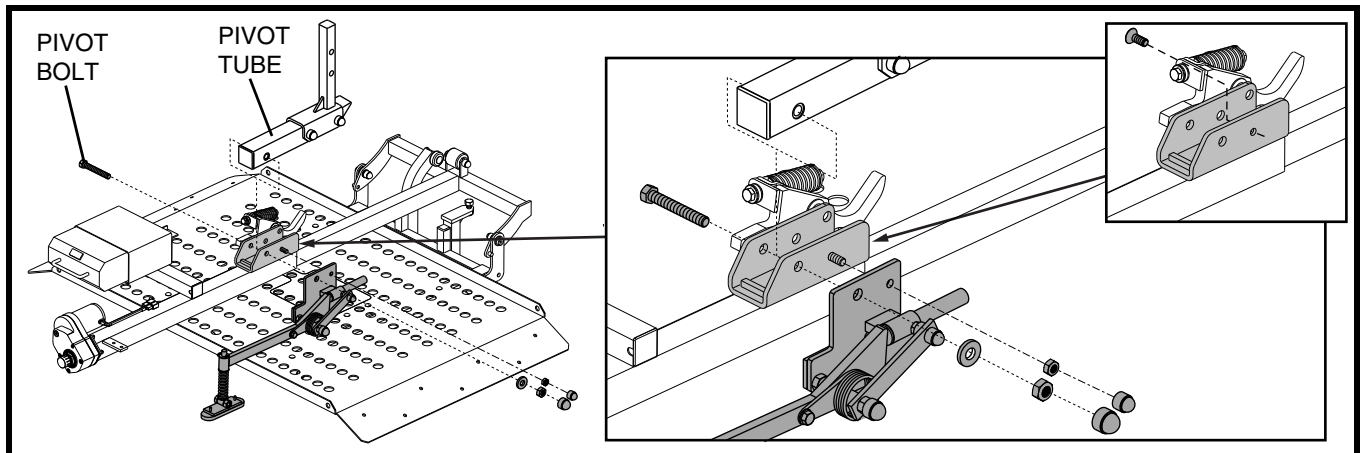

Figure 4. Lock-down Arm Installation
NOTE: If your lift system is equipped with a permanent threaded stud, removal of the pivot tube and pivot bolt is not necessary for lock-down arm installation. See figure 4.
2. Apply power to the lift until there is enough clearance to remove the pivot bolt. See figure 4.
4. Remove the pivot tube. See figure 4.